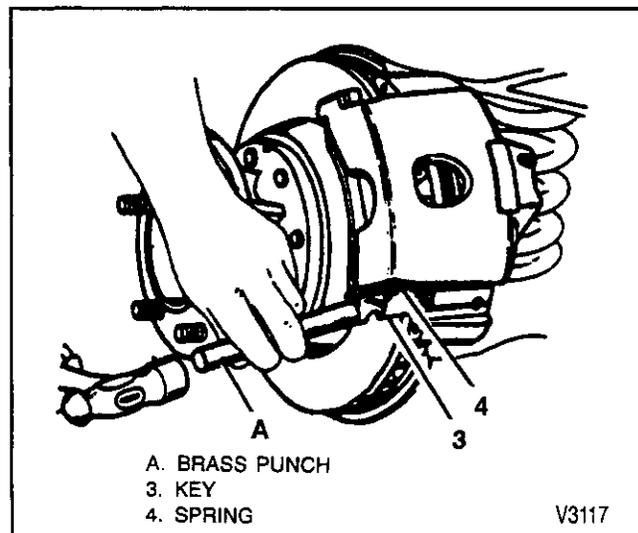

Figure 20—Installing the Caliper Support Key
2. Caliper assembly (1).
3. Spring (4) and support key (3).
- Use a brass punch and hammer to drive the support key in place (figure 20).
4. Bolt (2).